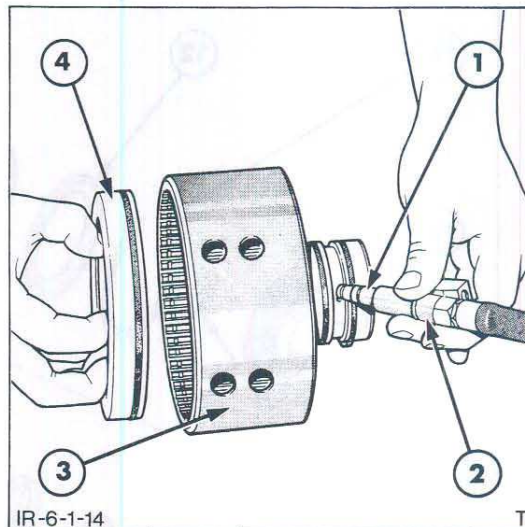

Figure 14
5. Use an air-line and a tyre valve to extract the piston from the clutch housing, Figure 14.